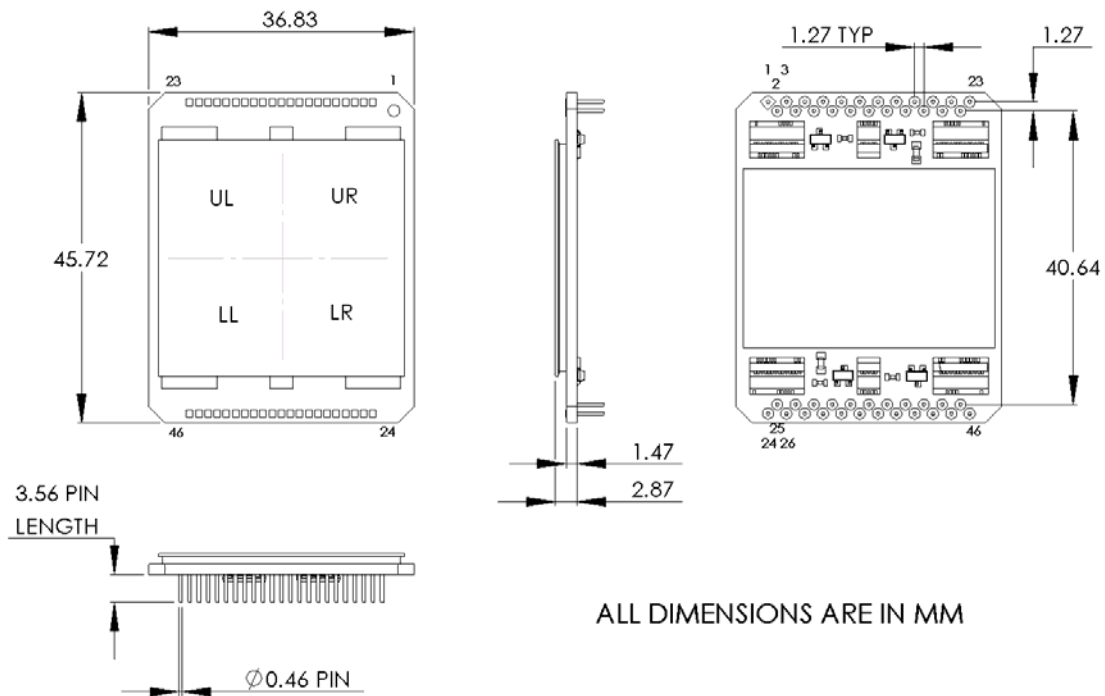

Figure 1: CCD 3041 BI Package
Die Orientation and Pin Designation: CCD orientation is indicated as shown in Figure 1 below, with pin 1 shown in the upper right (UR) quadrant when CCD is viewed from above. Pinouts are as shown in Figure 2. Note that the same pinouts are used for the front-illuminated version of the 3041 sensor but will require a modified timing diagram for operation.